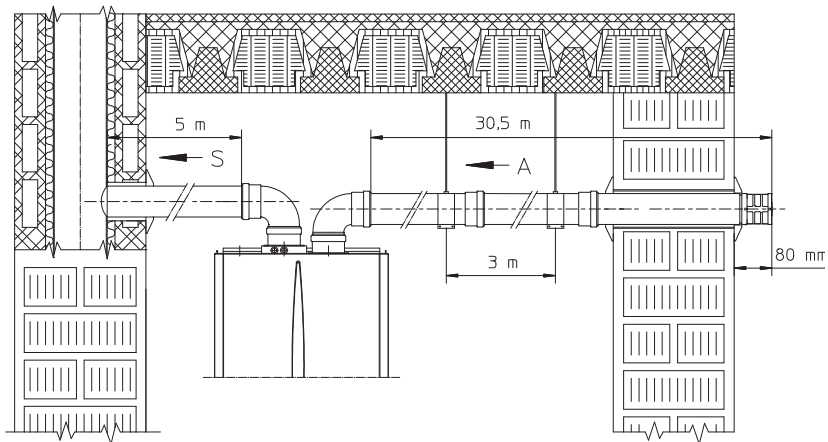

Fig. 1-28
- Temperature loss in flue ducts. To prevent problems of fume condensate in the exhaust pipe Ø 80, due to fume cooling through the wall, *the length of the pipe must be limited to just 5 m.* (Fig. 1-28). If longer distances must be covered, use Ø 80 pipes with insulation (see insulated separator kit Ø 80/80 chapter).